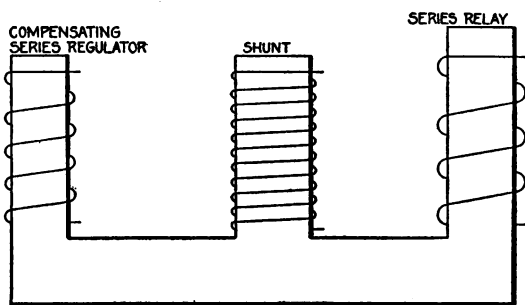

Fig. 466. Wiring of Westinghouse Voltage Regulator
*Description.* The regulator consists of an E-shaped, laminated magnet, Fig. 466, which has three separate windings and is enclosed by a case through which the pole pieces project. On
**Operation.** It will be seen that when the generator voltage reaches a given value, at which the generator is intended to be connected to the battery circuit, the magnetism set up by the shunt coil (center coil, Fig. 466) is sufficient to pull down the cutout armature, closing the cutout contacts and connecting the generator to the battery. The charging